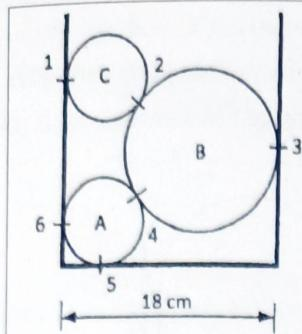

Fig 2.102
1) Three cylinders are piled up in a rectangular channel as shown in Figure 2.102. Determine the reaction at point 6 between cylinder A and the vertical wall of the channel. (Cylinder A: radius = 4 cm, m = 15 Kg, Cylinder B: Radius = 6 cm, m= 40 Kg, Cylinder C: Radius = 5 cm, m = 20 Kg)